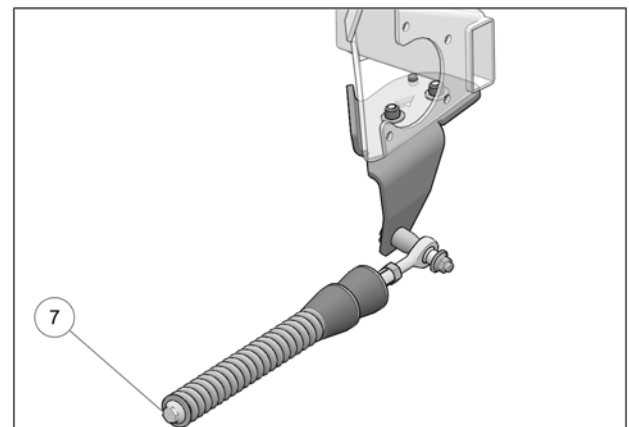

Fig. 13
- Verify that spring assembly bolt (**7**) is tightened to the recommended torque specification: 75 N•m [55 lb•ft]. Refer to Fig. 13